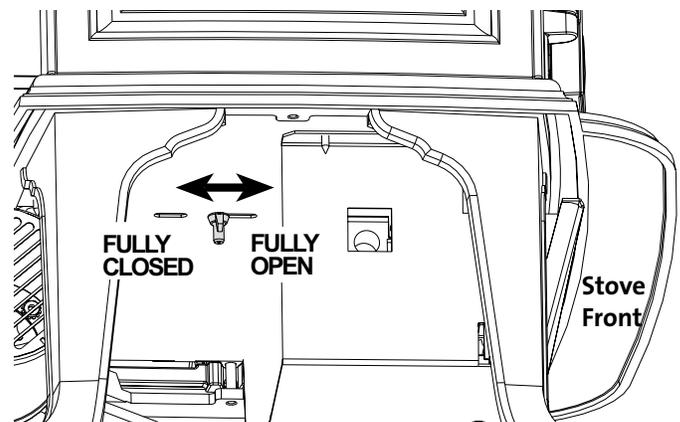

Figure 21. Locate and loosen the Air Shutter wingnut under the stove.
6. Reach under the stove and loosen the Air Shutter wingnut. Push the shutter stem back to ease burner removal. See fig. 21.